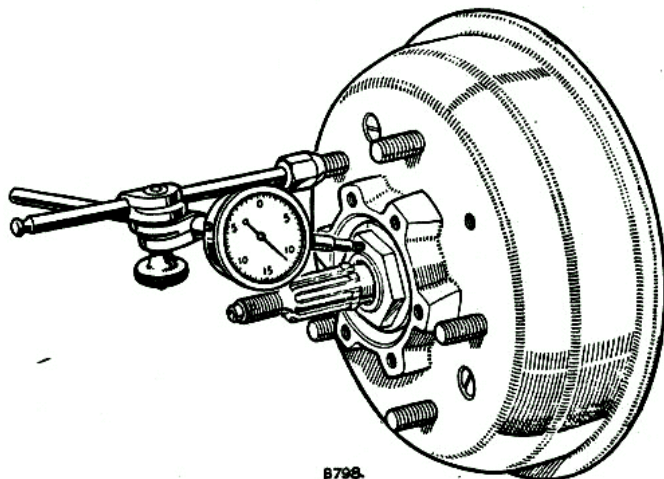

Fig. E-4—Checking hub end-float, fully floating shafts.
1. Adjust the end-float of the hub bearing by adjusting the hub inner nut, tightening the locknut and checking the end-float by means of a dial test indicator mounted on to one of the wheel studs (see Fig. E-4). Take the reading by pushing the hub as far as possible towards the axle centre, note the indicator reading, pull the hub outwards and again take the indicator reading, the total hub movement so measured should be .004 in. to .006 in. (0,10 mm to 0,15 mm). When the correct end-float has been obtained, bend over two tabs of the locking washer. As a safeguard, the end-float should be checked once more after locking the nuts.